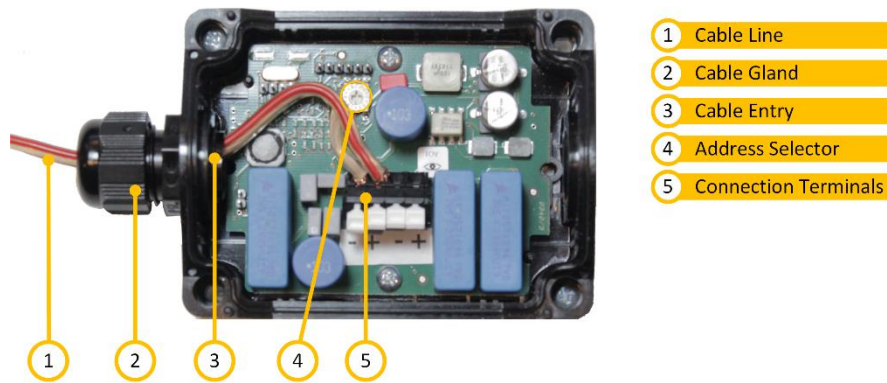

Figure 2: Terminal Connection
The address of the unit should be set before mounting as this will make the operation easier. The address is set using the address selector shown in Figure 2.
2. Connect the loudspeaker line to either of the two spring loaded connection terminals as shown in Figure 2.